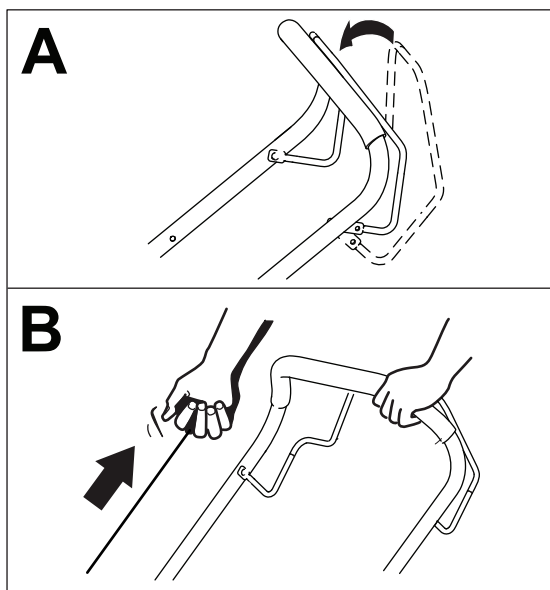

Figure 13
6. Hold the blade-control bar against the handle (A of Figure 13).
7. From the engine, pull the recoil-start handle (B of Figure 13).